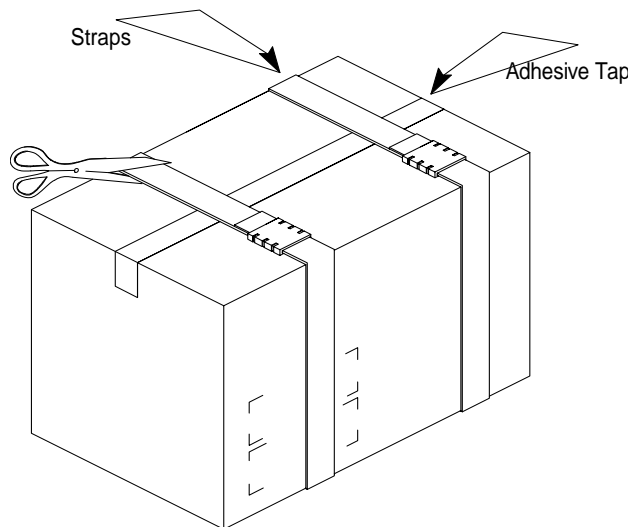

Figure 3-1 Unpacking LOGIQ™ 100 PRO
- 1.) Cut the two straps wrapped around the box. Refer Figure 3-1.
- 2.) Remove the adhesive tape. Refer Figure 3-1